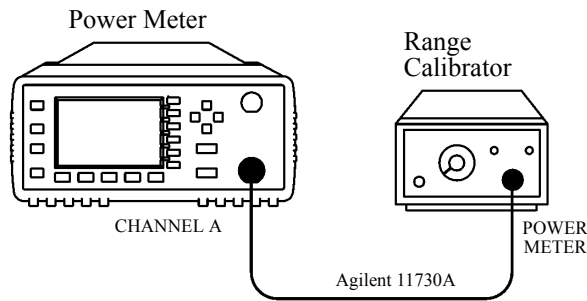

Figure 2-2: Instrument Accuracy Test Setup
- 1. Connect the equipment as shown in Figure 2-2.